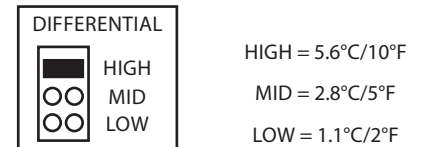

Figure 6
- Pull at least six inches of control wire into the enclosure, then complete the wiring connection according to the wire diagram for the applicable power supply as shown in Figure 6.
- Connect the DC positive or the AC voltage hot side to the PWR terminal. The supply common is connected to the COM terminal. See Figure 6.